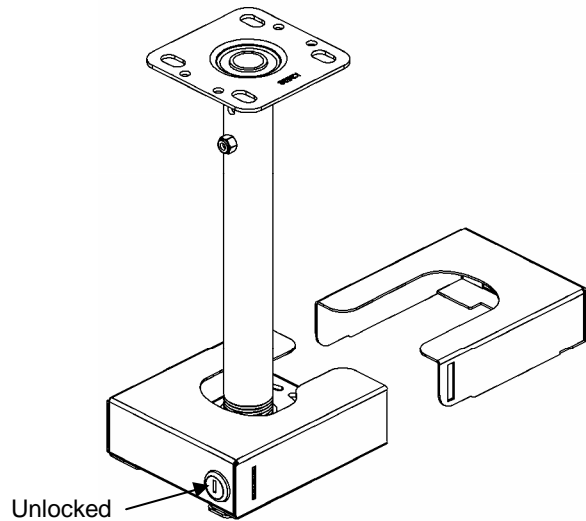

Figure 7. Install Security Insert
5. Install Security Insert (20) inside Main Bracket (10), ensuring tab of Security Insert is installed into slot on side of projector mount the same as Main Bracket (see Figure 7).